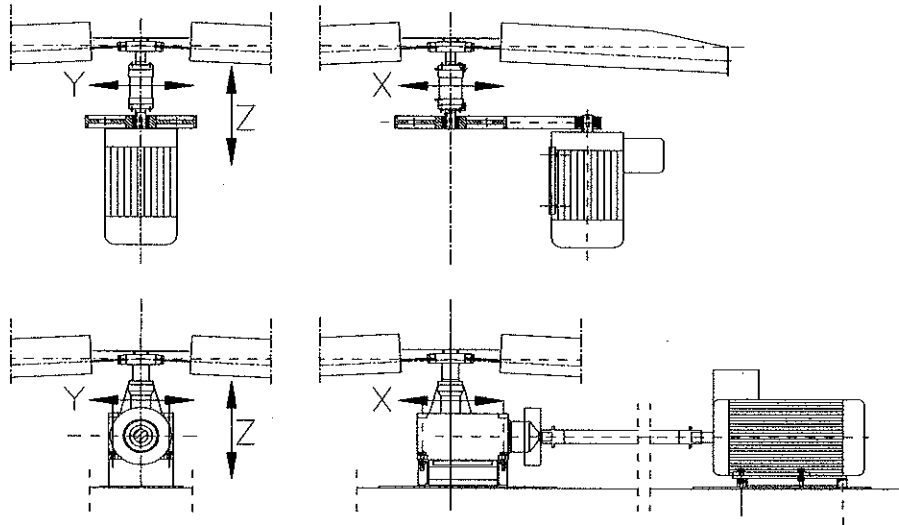

Fig.11
- b) Check that the vibration level in the position shown in Fig.11 does not exceed the most restrictive amplitude values between the limits imposed by the normative of the structure where
- f) Check vibration level in the position shown in Fig.11 at regular intervals.